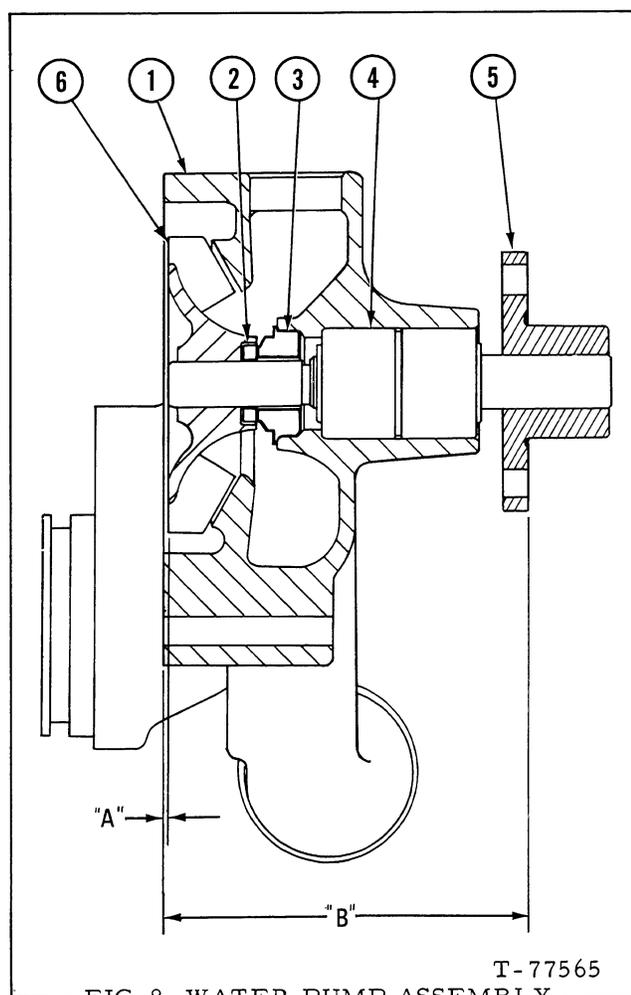

FIG. 8 WATER PUMP ASSEMBLY
Using a suitable puller or press remove pulley hub, Fig. 8 (5).
Check ceramic seat, Fig. 8 (2). If it is rough, cracked, or chipped replace the ceramic seat.
Replace water pump seal, Fig. 8 (3).
Position pump body in a press, impeller side up. Apply No. 3 Permatex, or equivalent to portion of seal, Fig. 8 (3) which is pressed into pump body. Press seal into pump body. Do not press on spring loaded face of seal;
Position pump body in a press, bearing bore up. Start shaft and bearing assembly into bore, smaller diameter of shaft down. Using an adapter or sleeve so that pressure is applied to outer race of bearing, press shaft and bearing assembly into pump body until it seats on bore shoulder, Fig. 8.
Clean seat bore in base of impeller. Using a new ceramic seat, Fig. 8 (2), lubricate O. D. of seat and press into impeller, ceramic side facing out. Try pressing seat in using hand pressure; if more pressure is required, pro-
Support pulley hub end of shaft in a press; using a suitable adapter, press impeller onto opposite end of shaft until face of impeller is .034" -- .039" (0,863 -- 0,991 mm) below mounting face of pump body, Fig. 8 DIM. "A".
Support impeller end of shaft in a press and, using a suitable adapter, press pulley hub onto opposite end of shaft until outer face is 5.00" (127,0mm) from mounting face of pump body, Fig. 8 DIM. "B".